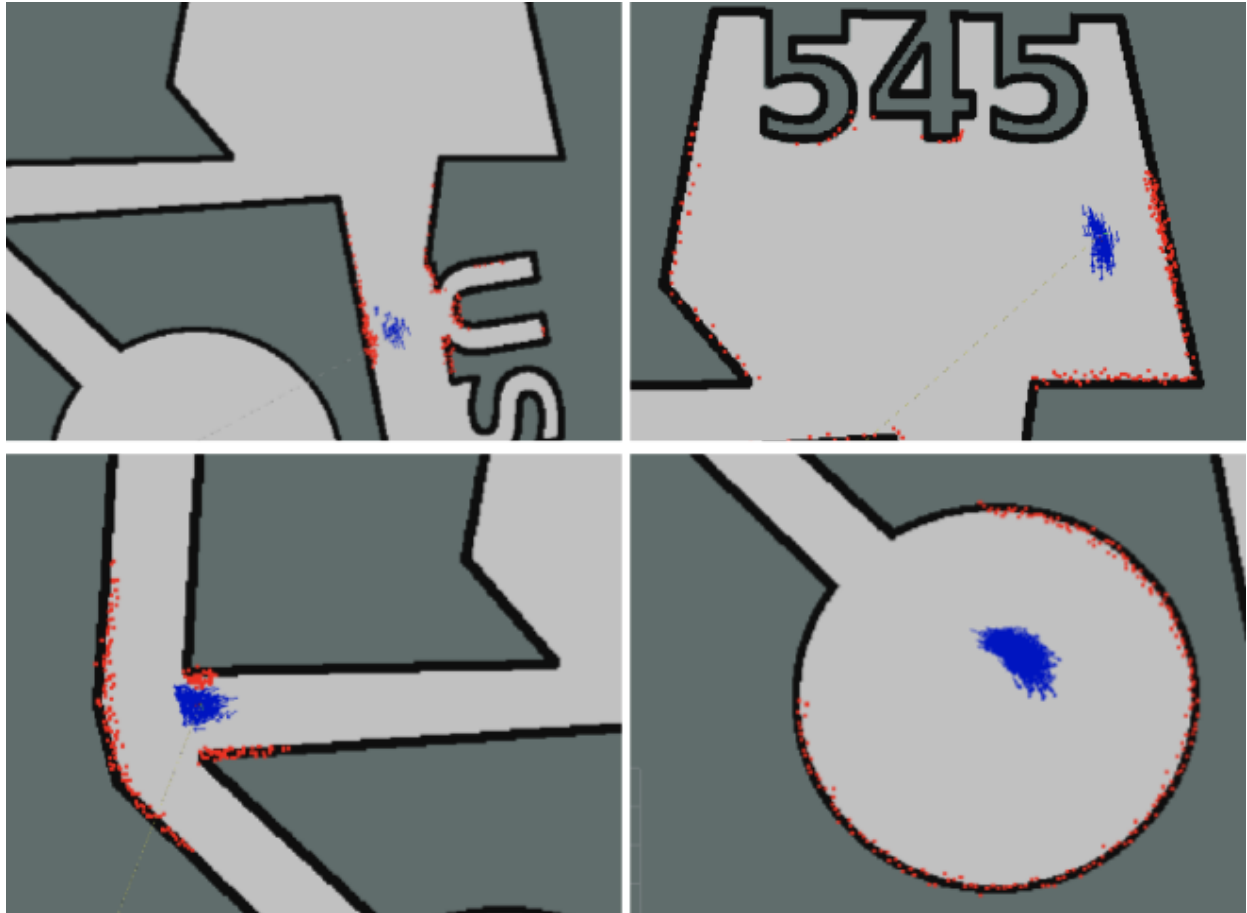
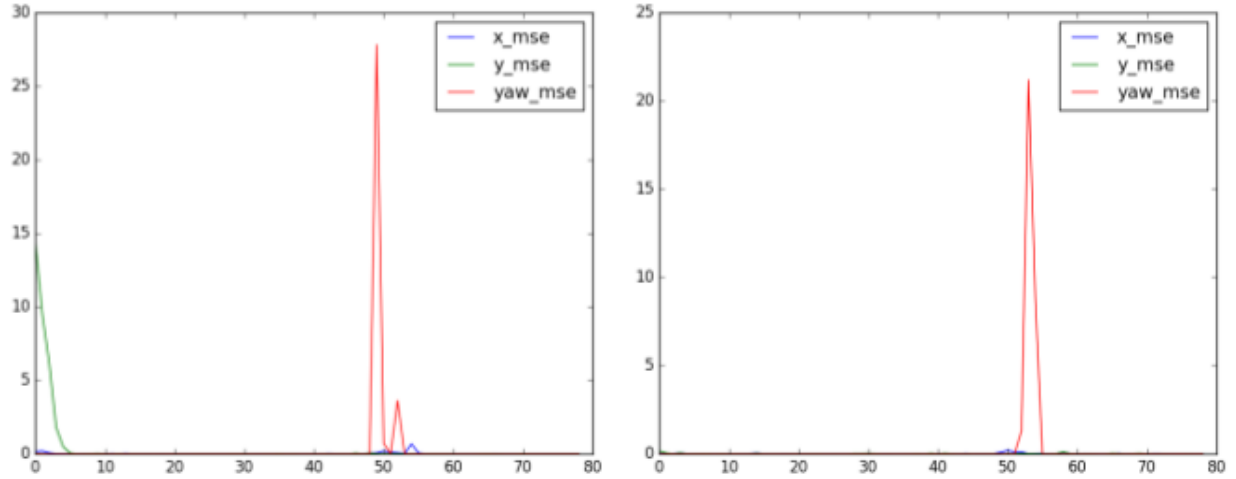

Fig. 6.1 Trajectories of particles over four different time steps for the more realistic motion model.
Fig. 6.2 The error profiles of positions and rotation of two runs using a more realistic motion model.
The previous motion model is overly simplified in two senses: (1) the noise is directly added to the states, and (2) the motion is directly updated by taking into account the noisy action (translational and angular velocities). These two simplifications make the distribution of particles to behave always as a Gaussian distribution. In contrast, the more realistic motion model enables a non-Gaussian distribution of particles (See Fig. 6.1).
On the one hand, this motion model decomposes the motion into three components (i.e., rotation before translation, translation, and rotation after translation). This decomposition allows the motion model to integrate the uncertainties in a non-linear and coupled way. On the other hand, the variances of uncertainties are dependent on the two rotations and translations, rather than being fixed in the previous motion model. It seems that this dynamical setting of variances makes the particles capable of being adaptive to the environment. As reflected in Fig. 6.1, the distribution of particles is neither following the Gaussian distribution, nor fixed. In fact, the distribution shows adaptivity and can change via measurements. For example, as shown in the third time frame in Fig. 5.1.1, the front of the particle swamp becomes flat when it reaches the wall.
Another observation lies in the error profiles (Fig. 6.2), where there is always a spike in the rotation. This spike happens when the particles enter the T-shaped road as shown in the third frame in Fig. 6.1. The particles become divergent and less concentrated. This spike is probably caused by the way we get the pose which is averaged over all particles. This might cause significant error when the particles become divergent and spread over a large area on the map.